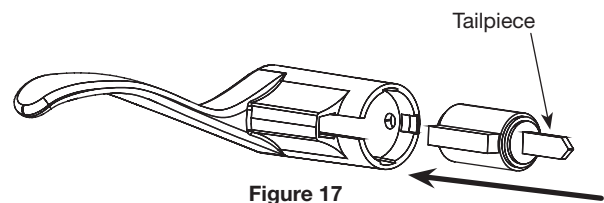

Figure 17
A. Install cylinder in exterior lever handle as shown in Fig. 17.